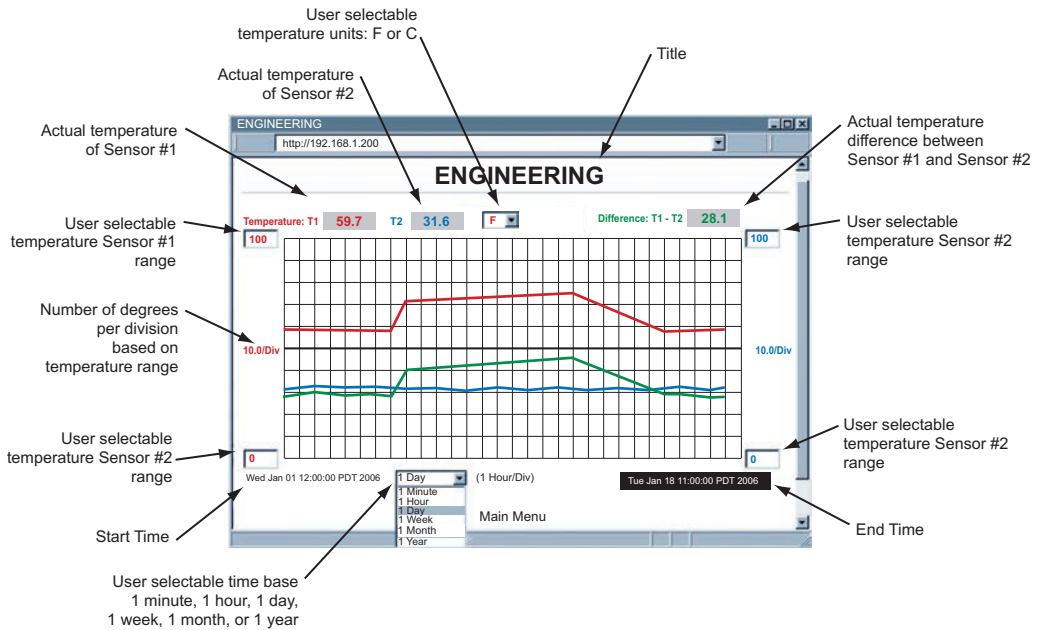

Figure 4.9 Chart
- In the first column of Configuration's page, click on **1** to view and modify Sensor Parameters. See **Figure 4.9**.